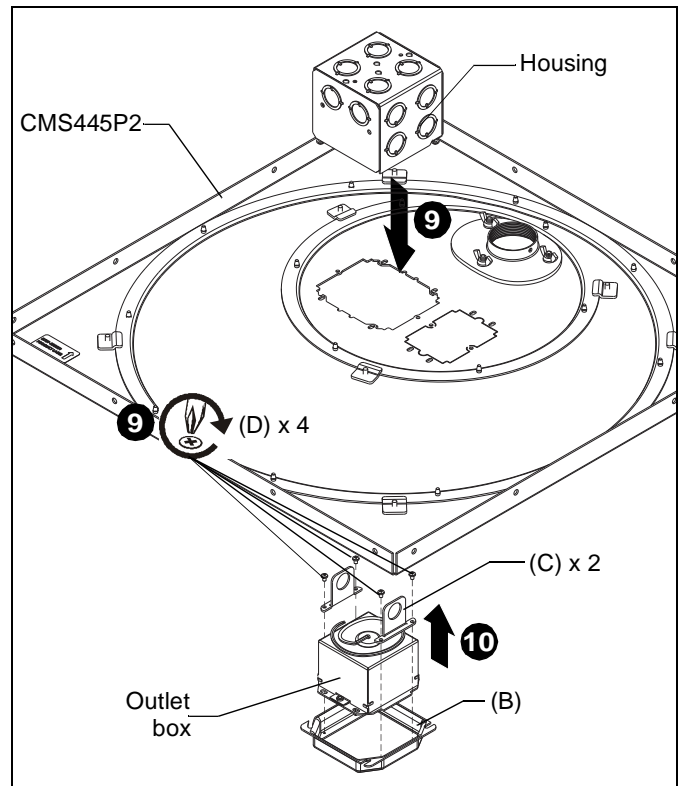
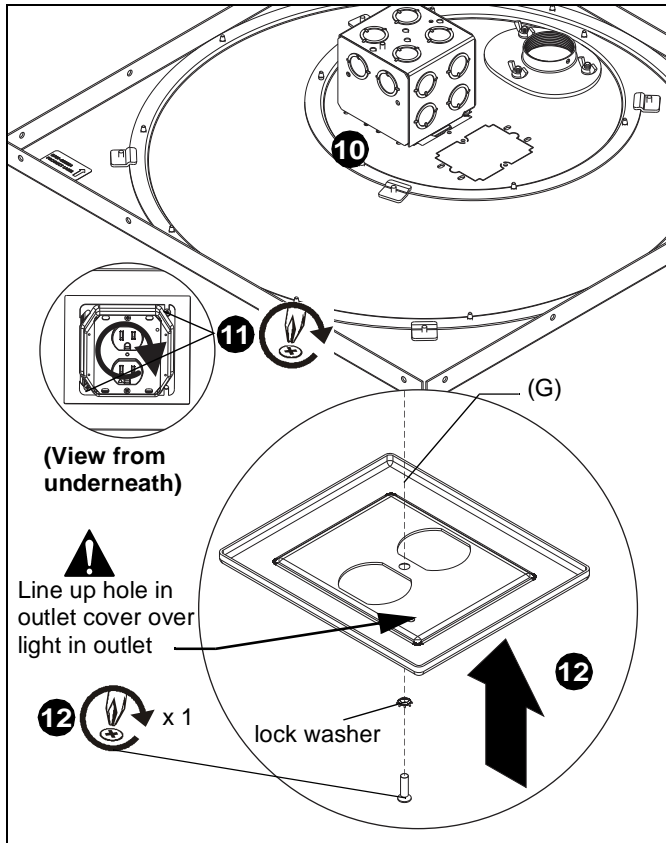

Figure 11
Figure 12
- Lower outlet box into the mud ring (B) and attach two screw spacers (C) inside the mud ring on either side of outlet box using four 06-32 x 3/16" Phillips pan head screws (D). (See Figure 11)
- Lower housing from above CMS445P2, install outlet box assembly up into housing, and rotate clockwise into place. (See Figure 11) and (See Figure 12)
11. Replace removed Phillips head screw (in outlet housing) and tighten the other one to hold in place. (See Figure 12)
12. Install outlet cover (G) over outlet box using removed 6-32 x 1/2" Phillips flat head screw and removed #06 lock washer. (See Figure 12)